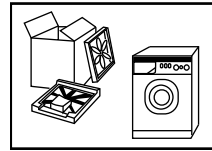

Fig.1
- Remove all the packing materials as shown in figure 1 (including the foam base)